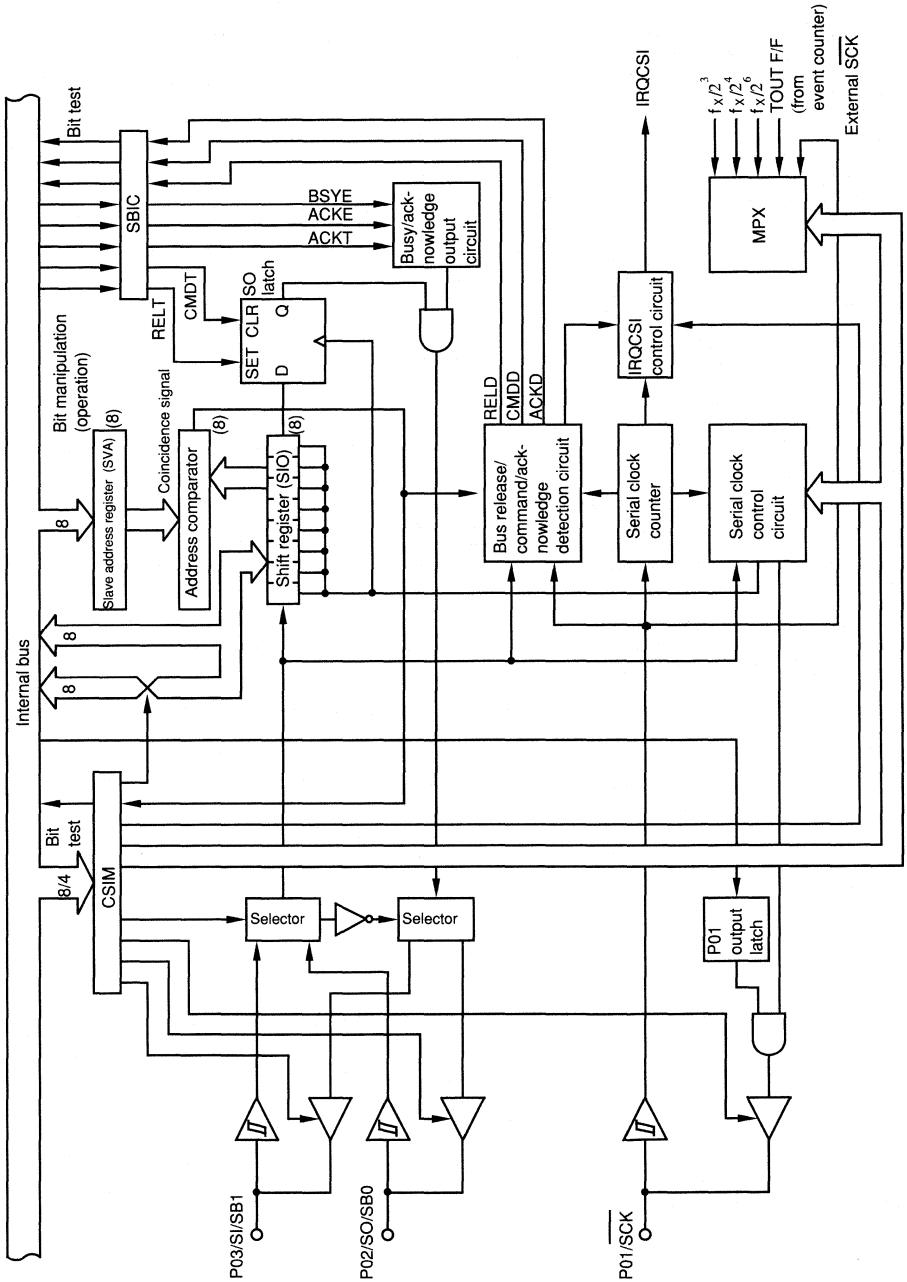

Figure 5.6.2 Serial Interface Block Diagram
The μPD7500X has a clocked serial interface (CSI) as shown in Fig. 5.6-2.
(1) 3-line serial I/O mode
(2) SBI (serial bus interface) mode
- Address, command, and data can be transferred, and a hardware function for discriminating the signals is included. (See Fig. 5.6-2.)